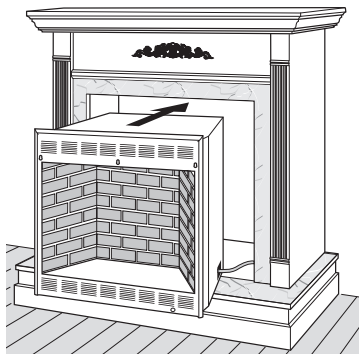

Figure 20 - Inserting Firebox Into Cabinet Mantel
11. Carefully insert firebox into cabinet mantel. Be careful not to scratch or damage hearth base, cabinet mantel or any laminate trim on hearth base. Remove protective material from top of hearth base and from front of firebox (if any). See Figure 20.